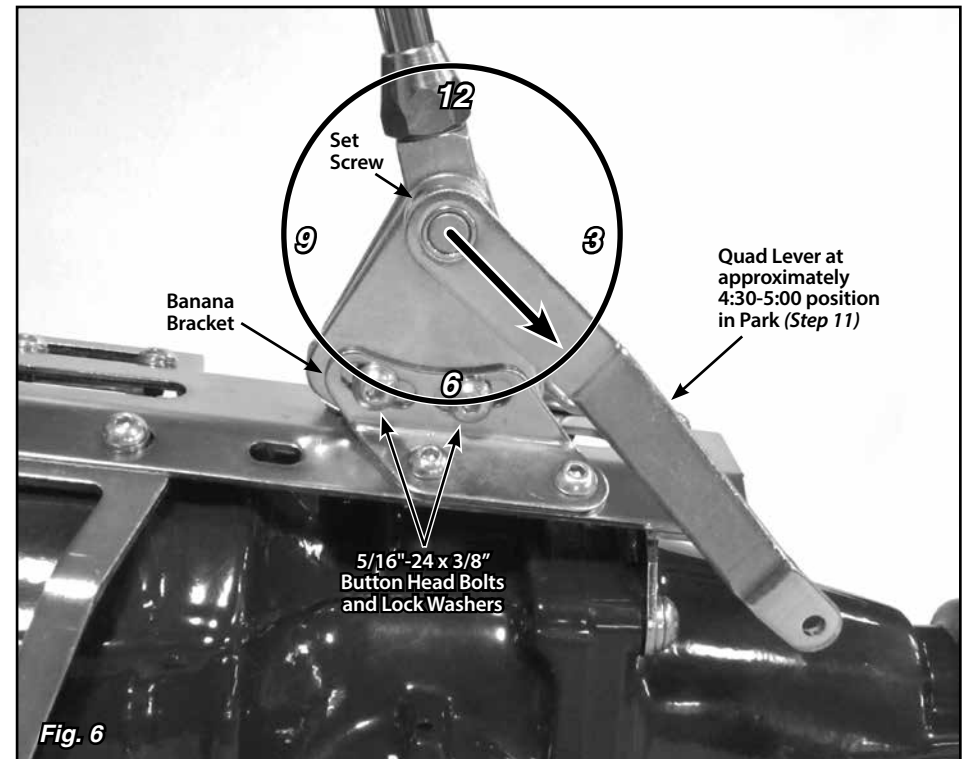

Fig. 6
Step 10: Make sure the two 5/16"-24 x 3/8" button head bolts that attach the left side banana bracket to the shifter assembly (in the curved, slotted holes) are tight. Before tightening the shifter assembly down to the main plate, move the shifter lever through all the gear positions. Make sure that the shifter lever and knob do not come in contact with the dash or the seat. The shifter assembly can be tilted forward or backward if needed by loosening the 5/16"-24 x 3/8" button head bolts in the curved, slotted holes in the left side banana bracket. **Fig. 6**
Step 11: Put the shifter lever into the Park position and check the position of the quad lever. It will need to be pointing to about the 4:30 - 5:00 position. If it is not, loosen the set screw in the top of the quad lever with a 1/8" Allen wrench and slide the quad lever off of the shaft. Reposition it on the shaft at approximately the 4:30 - 5:00 position, and retighten the set screw. **Fig. 6**
Double check to make sure that the bolts connecting the **left** side banana bracket to the shifter assembly are tight. **Fig. 6**